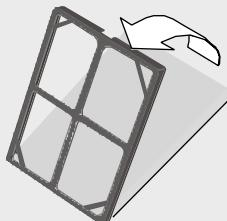

Fig. 29
- Check that the purifying filter is fitted in the positioner. If it is not, fit as shown on Fig 29. Place the dark part of the filter in contact with the positioner.